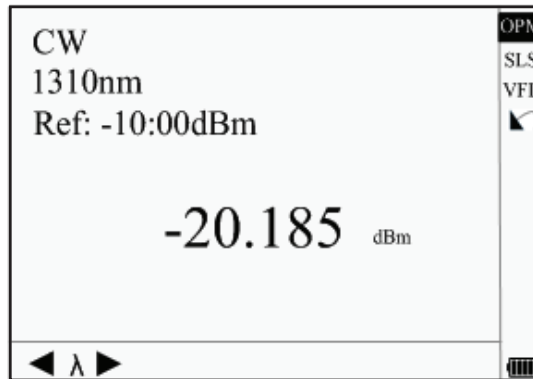

Figure 4-10. Optical Power Meter
1. Enter PM/LS interface as described in “Power Meter, Laser Source, and VFL Configuration” in Section 3. Use ▲ and ▼ to highlight “OPM”, and press **Enter** to enter OPM interface (Figure 4-10).